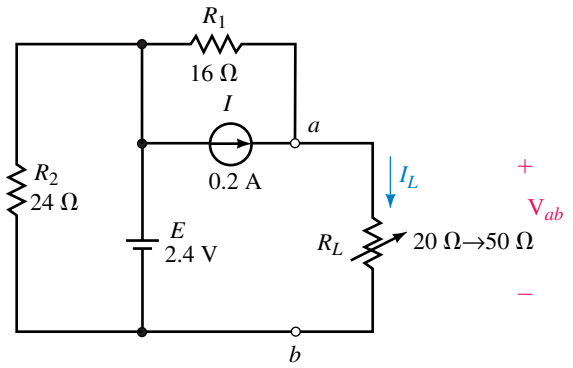

FIGURE 9-85
11. Refer to the circuit of Figure 9-85: